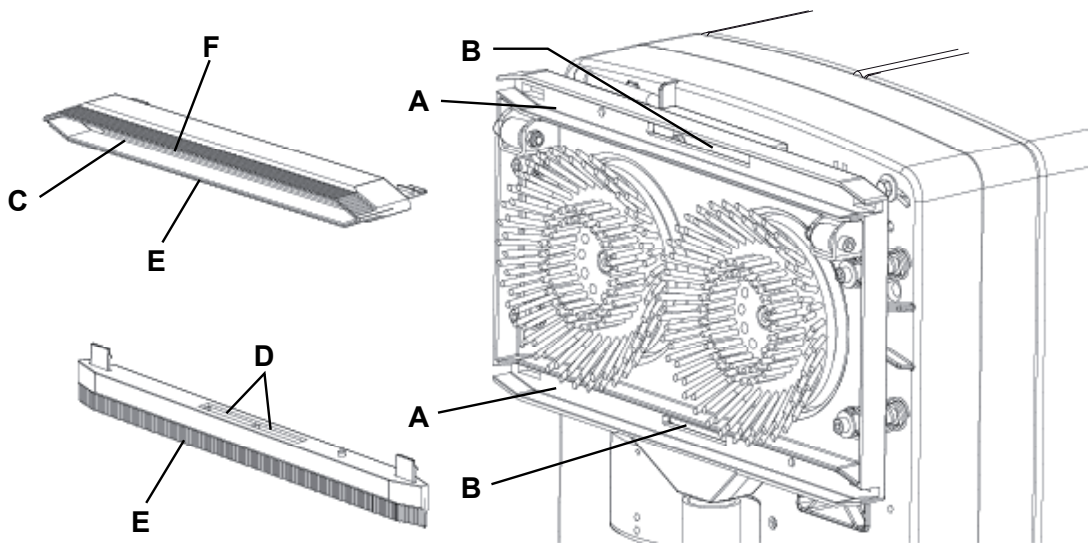

Figure 2
2. Make sure that the power supply cable (10) is disconnected from the electrical mains.
3. To reach for the brush/squeegee-holder deck, lift the machine by using the handlebar (2).
4. Remove the squeegees from the deck by pressing the mounting springs (27).
5. Check the brush/squeegee-holder deck (9) and clean it, in particular, clean the compartments (A, Fig. 2) and the vacuum hole (B).
6. Wash and clean the squeegee. In particular, clean the compartments (C) and the vacuum hole (D) from dirt and debris.
7. Check that the blade (E) and the blade (F) are integral and free from cuts and lacerations; if necessary replace them.